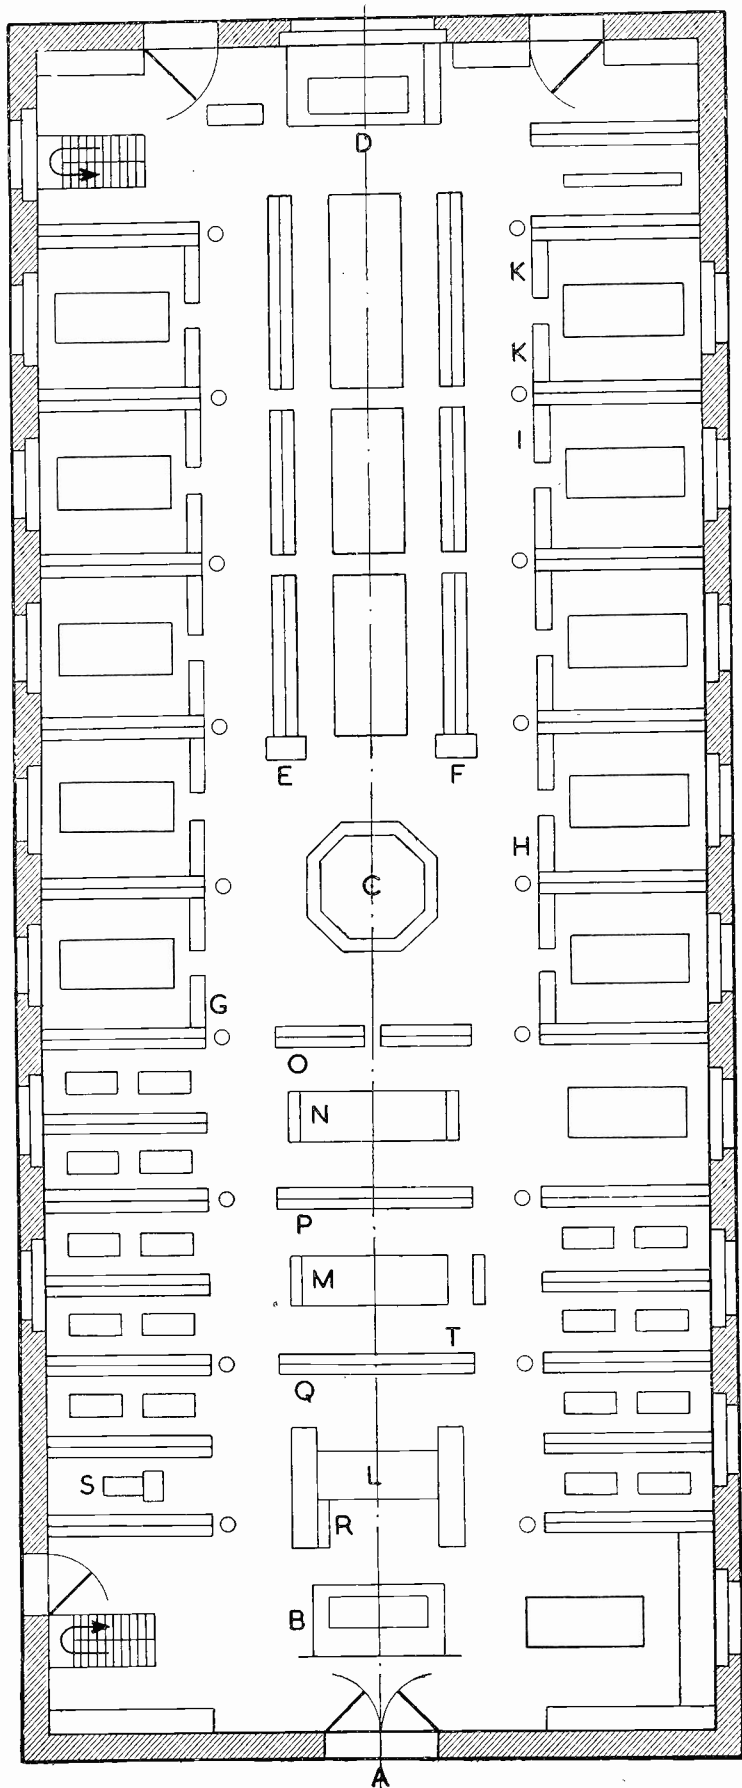

Fig. 3. Plan of Reading Room
Fig. 2 shows a general view, and Fig. 3 a plan of the reading room. The part near the entrance (A) con-